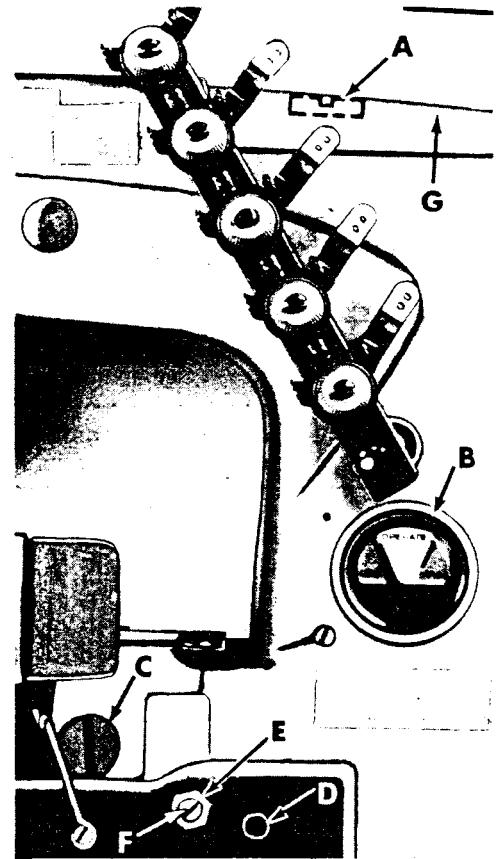
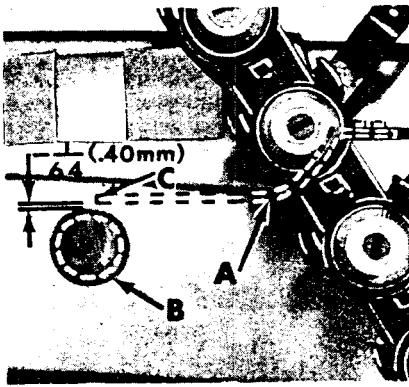

Fig. 2
Fig. 3
Use Singer Type C oil or equivalent in the main reservoir. Fill main reservoir at plug screw in upper crank chamber cover (A, Fig. 2) and check oil level at gauge (B). Oil is maximum safe operating level when needle is to the black line, located to the right of "OPERATE" zone, marked "FULL". Oil should be added when needle is to the black line, located to the left of "OPERATE" zone, marked "LOW".
For machines in operation check the oil for dirt and lint deposits at reasonable intervals. If dirty, change the oil. An oil change is recommended every 2000 operating hours. Oil may be drained from main reservoir by removing plug screw (C, Fig. 2) located below the cloth plate at front of the machine, or by removing the lower crank chamber cover, located at the back of machine.
2. Remove the oil reservoir plug screw (C, Fig. 2) and tip machine forward to drain oil from the reservoir.
5. Fill main reservoir to a level even with the bottom contour of the knee press shaft bushing (D, Fig. 2).
6. Loosen lock nut (E) on calibrating screw (F), and turn the screw to the left or right until the gauge needle rests on the black line, located to the left of "OPERATE" zone, marked "LOW".
7. Tighten lock nut (E) and replace plug screw (C) and lower crank chamber cover.
Remove the head cover and upper crank chamber cover (G, Fig. 2). Check position of needle lever bearing oiler (A, Fig. 3) located inside the arm casting, below the upper crank chamber cover, which lubricates the needle lever stud (B). Make sure it is tilted downwardly and that its delivery end (C) contacts the inside wall of the bed casting at the back, just above the notch of the needle lever shaft stop collar. (Do not allow the oiler to rest on the needle lever). Allow 1/64 inch (.40 mm) clearance as in Fig. 3.